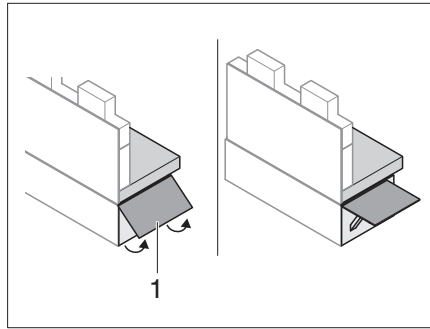

Fig. 148 Folding out bench seat extension
- Fold up bench seat extension (Fig. 148,1).
- Slide in the release button and fold in the bench seat extension (Fig. 148,1).